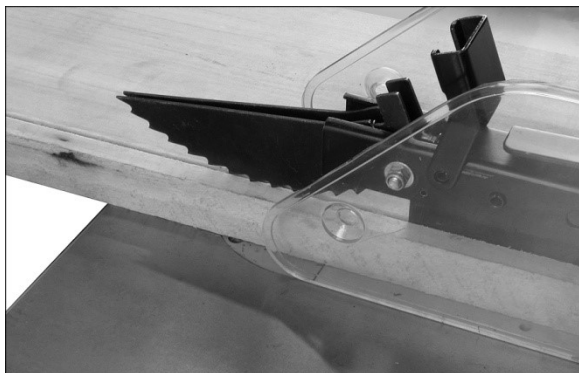

Figure 32
- As the machine receives use, the operation of the anti-kickback pawls should be checked periodically (Figure 32). If the pawls do not stop the reverse motion of a workpiece, resharpen all the points.